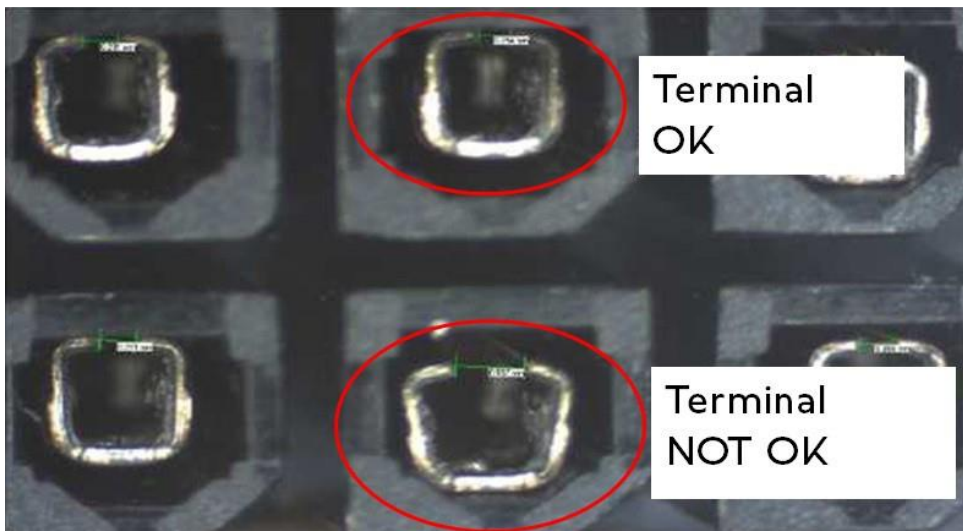

Figure 2
4) Unclip both harness connectors, visually check the connectors for any misshaped female terminals (Figure 2)